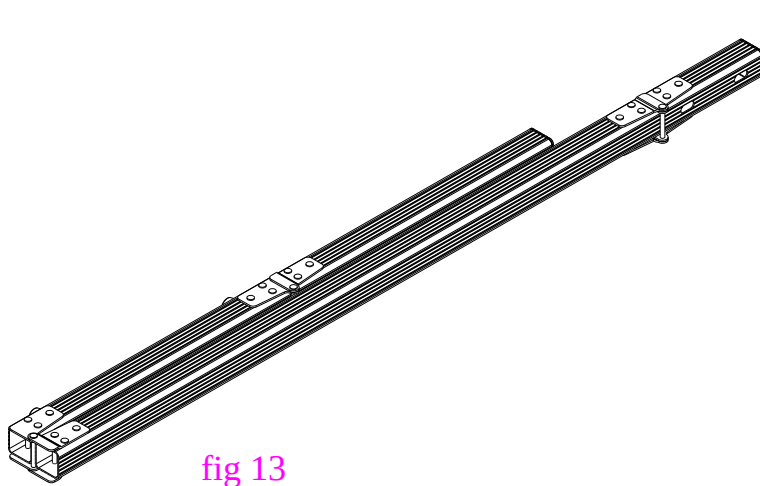

fig 13
1. Take the SAT-Leg out of the case and remove its wrappings as shown in (fig13).